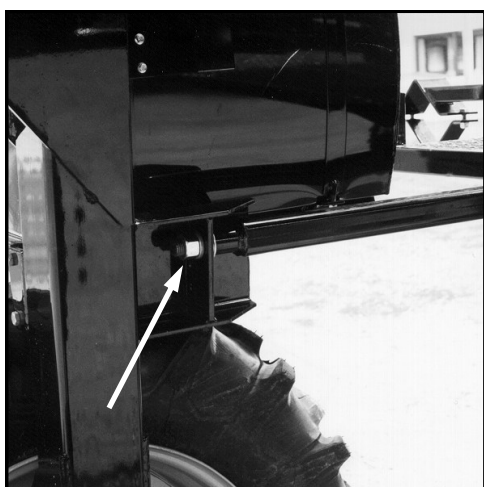

FIG 4.4
4. Loosen the rear lock nut on the leg brace (fig. 4.4). This will allow one leg to move further than the other without binding while adjusting the tread setting.